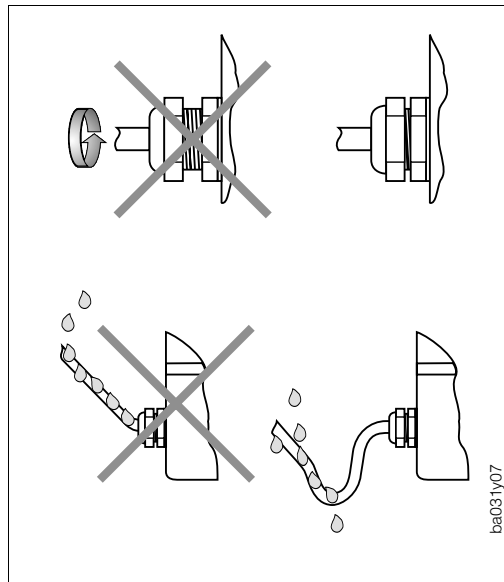

Fig. 4:
- The cable gland must be firmly tightened (see Fig. 4).
- The cable must loop down before entering the cable gland to ensure that no moisture can enter it (see Fig. 4).